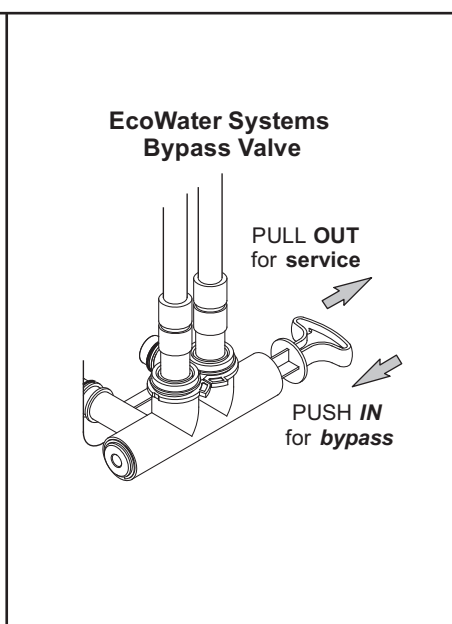

FIG. 7
- b. Place the bypass valve(s) in **bypass** position (See Figures 7 & 8).
- j. **Start a recharge:** From the rolling status screens, press the SELECT (O) button to display the **Main menu**. Make sure **Recharge** is highlighted, then press SELECT (O). Press DOWN (▼) to scroll to **Recharge now**, then press SELECT (O) twice. You should hear the valve motor run as the conditioner/refiner begins recharging. Use the RIGHT (►) button to advance the valve to the **backwash** position.
- (1) SINGLE BYPASS VALVE: **Slowly** move the valve stem toward **service** position, pausing several times to allow the unit to pressurize slowly.